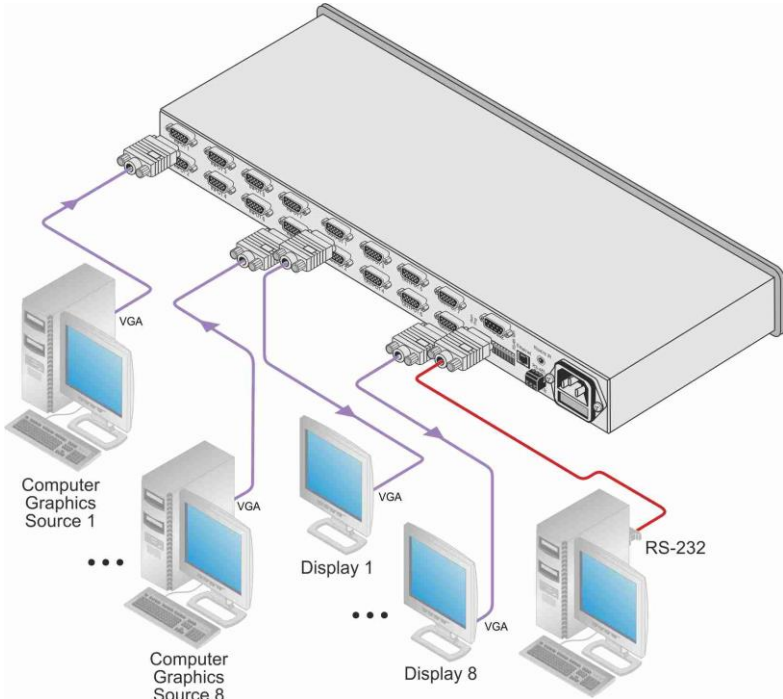

Figure 4: Connecting the VP-8x8 8x8 VGA / UXGA Matrix Switcher
1. Connect up to 8 VGA/UXGA computer graphics sources to the input connectors (see the example in Figure 4).
5. Connect the power cord (not shown in Figure 4).